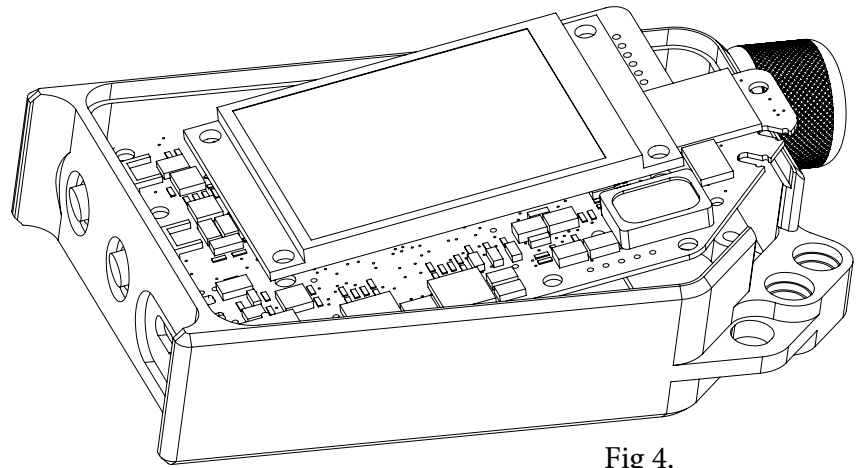

Fig 4.
4. *Install the Main Board:* Remove the **Main Board** from it's packaging. Insert it into the **Housing** by angling the SMA connectors into their holes in the **Housing** (Fig 4.), then tilt the **Main Board** down onto the pins on the **Encoder Board**. Push on the upper right corner of the board until it firmly connects to the **Encoder Board** pins. If it doesn't set down mostly flat, the battery may have shifted.